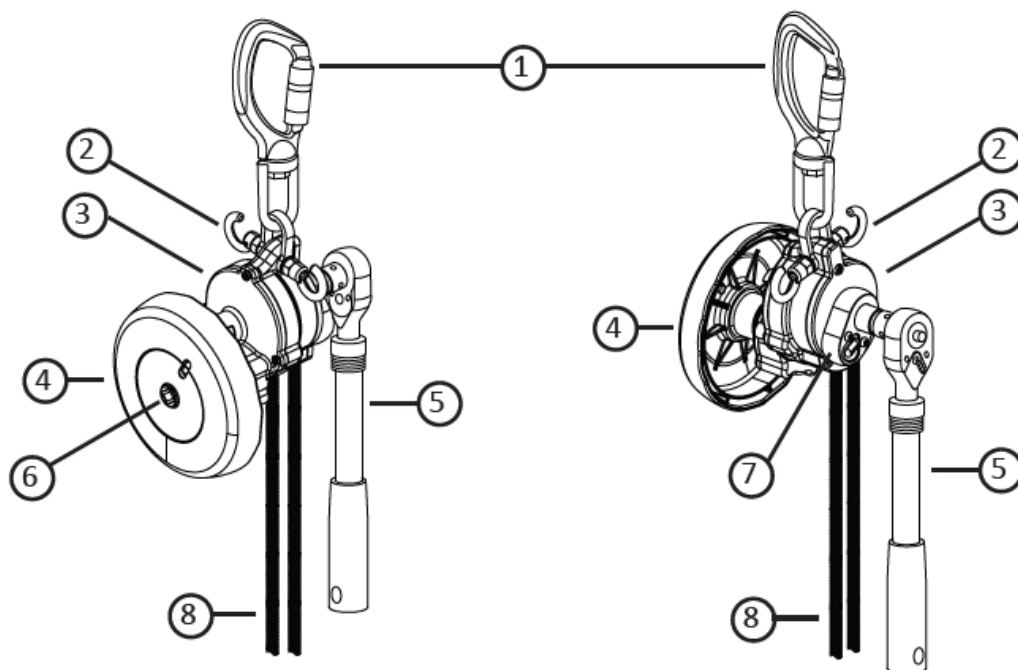

Figure 1 – About FallTech® UniDrive Rescue and Descent Device
- Figure 1 below shows the components of the UniDrive that may be referred to in this user instruction manual. See Table 1A in Appendix A for product and materials specifications.